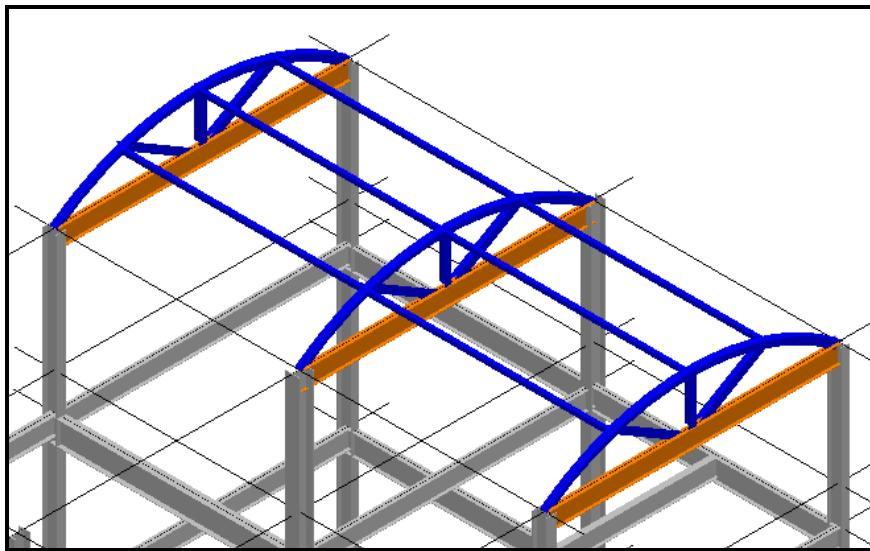

Figure 13 – ISO View of the Structure U03
28. Continue using Place Framing Members command by selecting Supporting Member2 to place framing members as shown in Figure 13.